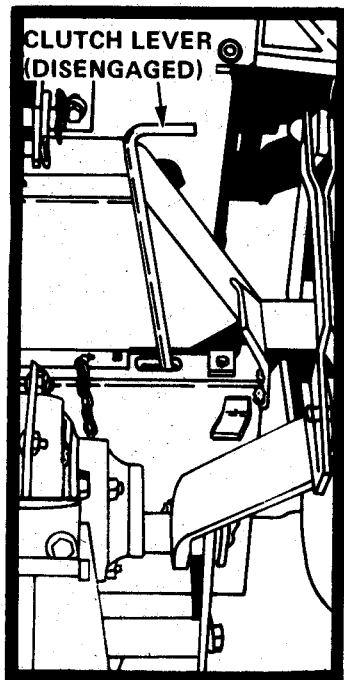
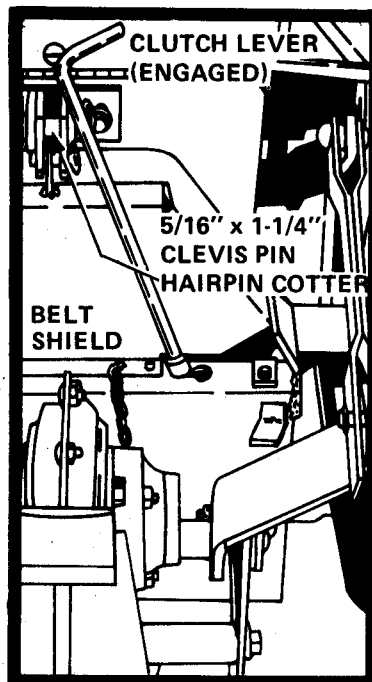

Figure 11
Figure 12
Tiller Clutch Lever (Figures 11 and 12) The tiller clutch lever is easily accessible from the operator's seat. To engage the tiller, pull lever up and to the left (Figure 12). To disengage the tiller, pull lever up to the right (Figure 11) and release.
1. Have tiller clutch lever in the disengaged position, Figure 11.
8. Pull tiller clutch lever, Figure 12, up and to the left to engage the tiller drive.